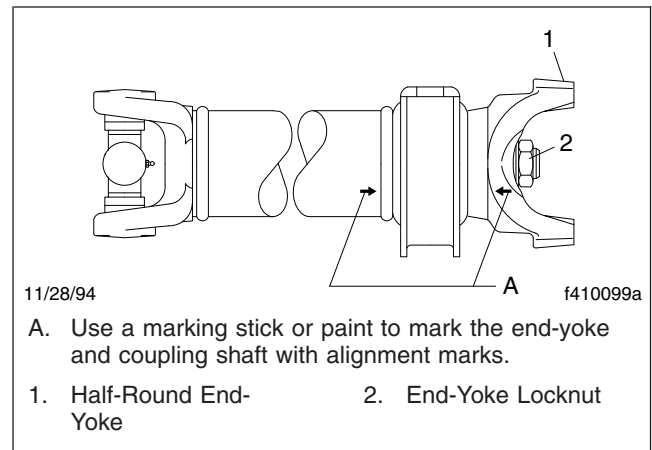

Fig. 16, Alignment Marks on a Coupling Shaft With an End-Yoke
- 3.1 Use a marking stick or paint to mark the end-yoke and coupling shaft with alignment marks. See Fig. 16.